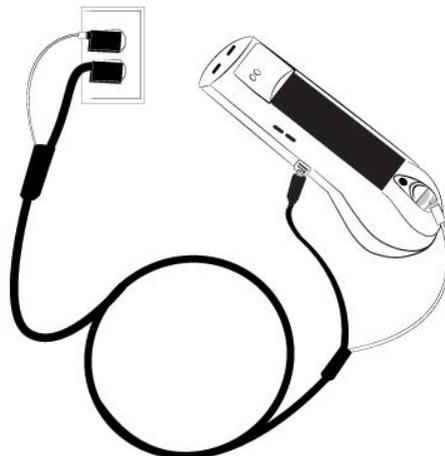

Figure 18: Charging MolecuLight *i:X* Imaging Device and Display Screen with MolecuLight Power Cable
1. Connect the MolecuLight *i:X* Imaging Device to the black power supply cable on the MolecuLight Power Cable (P/N 1142) as in Figure 18. The black power supply cable charges the MolecuLight *i:X* Imaging Device. The MolecuLight *i:X* Imaging Device begins charging. The Battery Status LED indicates the battery power as described in Section 6.1.1.4.
1. Connect the white connecting cable on the MolecuLight Power Cable (P/N 1142) to the port on the MolecuLight *i:X* Display Screen as shown in Figure 18.
2. Connect the USB power adapter to the other end of the white connecting cable as shown in Figure 18.